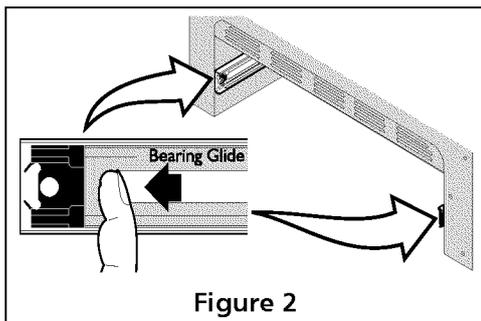

Figure 2
2. Pull the bearing glides to the front of the chassis glide (see figure 2).